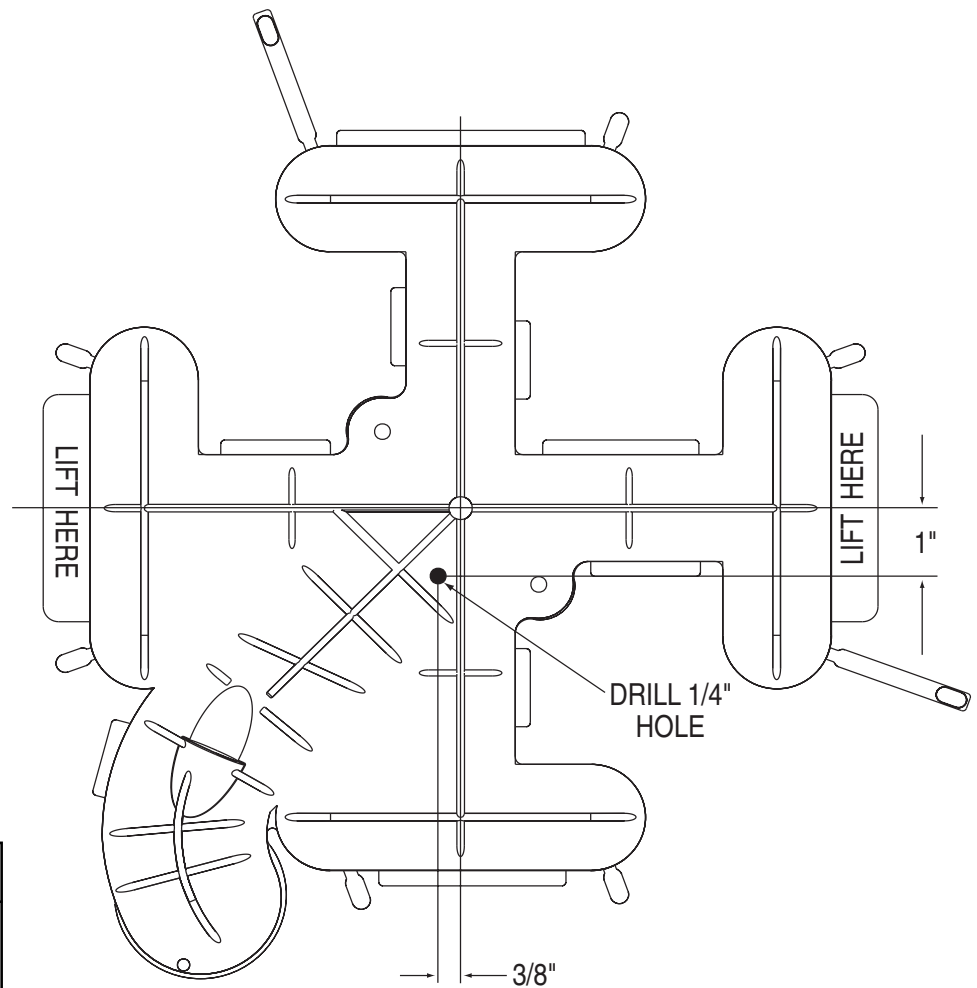

Figure 6.
13. Redrill ¼ in. diameter hole per, *see* Figure 6 below.